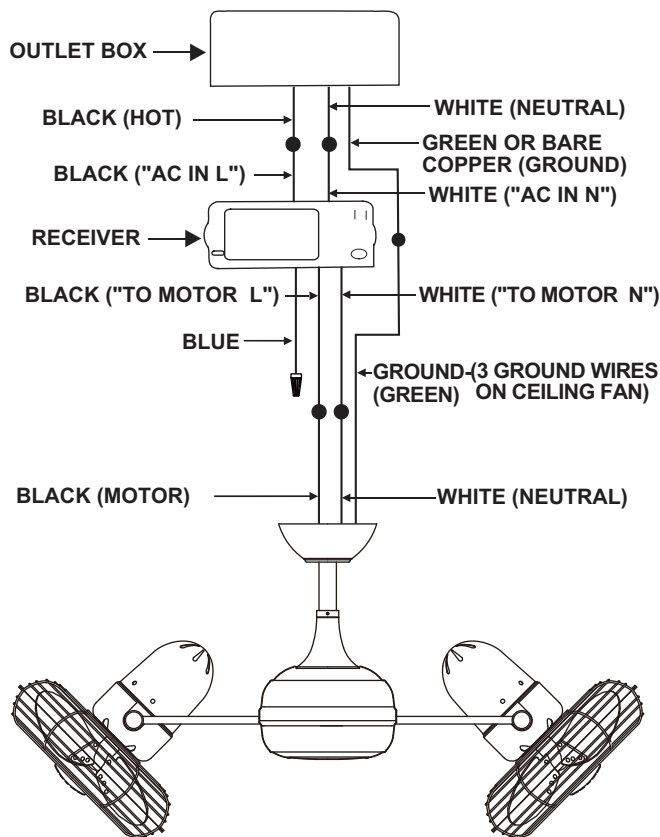

Figure 11
2. Motor to Receiver Electrical Connections: Connect the WHITE wire from the fan to the WHITE wire marked "TO MOTOR N" from the Receiver. Connect the BLACK wire from the fan to the BLACK wire marked "TO MOTOR L" from the Receiver. Proceed to secure all wire connections with the plastic wire nuts provided. Dagny has no light, so the blue receiver "light" wire must be capped off to avoid electrical shock. (Fig. 11)
3. Receiver to House Supply Wires Electrical Connections: Connect the WHITE wire (Neutral) from the outlet box to the WHITE wire marked "AC in N" from the receiver. Connect the BLACK wire (Hot) from the outlet box to the BLACK wire marked "AC in L" from the receiver. Secure all wire connections with the plastic wire nuts provided. (Fig. 11)
4. If your outlet box has a GROUND wire (Green or Bare Copper) connect this wire to the Hanger Ball and Hanger Bracket Ground wires. If your outlet box does not have a Ground Wire, then connect the Hanger Ball and Hanger Bracket Ground Wires together. Secure wire connection with the plastic wire nut provided. (Fig. 11)